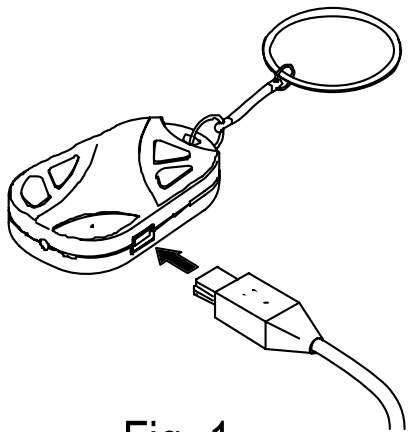

Fig. 1
1. Connect the computer to the device by means of the USB cable (Fig. 1) and charge the device for max. 4 hours.